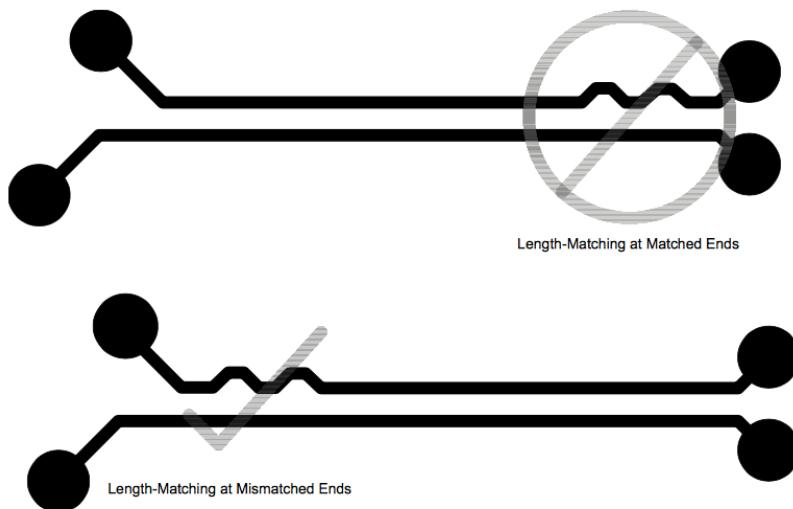

Figure 91 USB Length Matching (©Texas Instruments)
- If the trace lengths are mismatched, try to match them at the mismatched end and not on the matched end using serpentine traces. When using serpentine traces, please be careful that the width between the bends is greater than 3x the trace width and that all angles are at least 135 degrees. An example for this is shown in Figure 91.